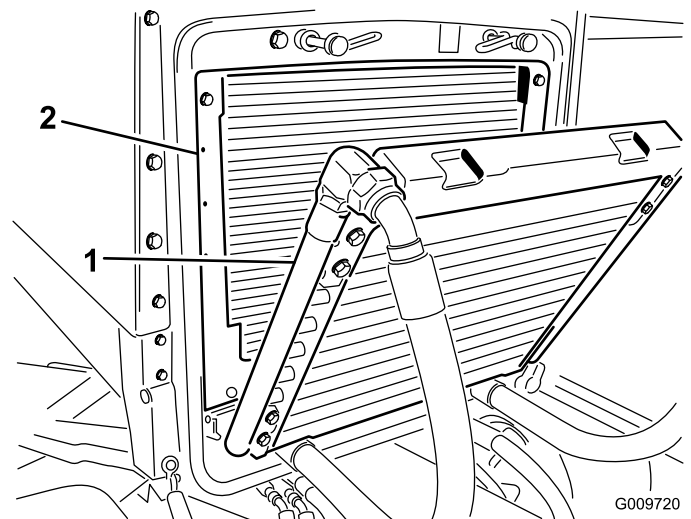

Figure 72
3. Pivot the oil cooler rearward. Clean both sides of the oil cooler and radiator area (Figure 72) thoroughly with compressed air. Start from the front and blow the debris out towards the back. Then clean from the back side and blow towards the front. Repeat procedure several times until all chaff and debris is removed.